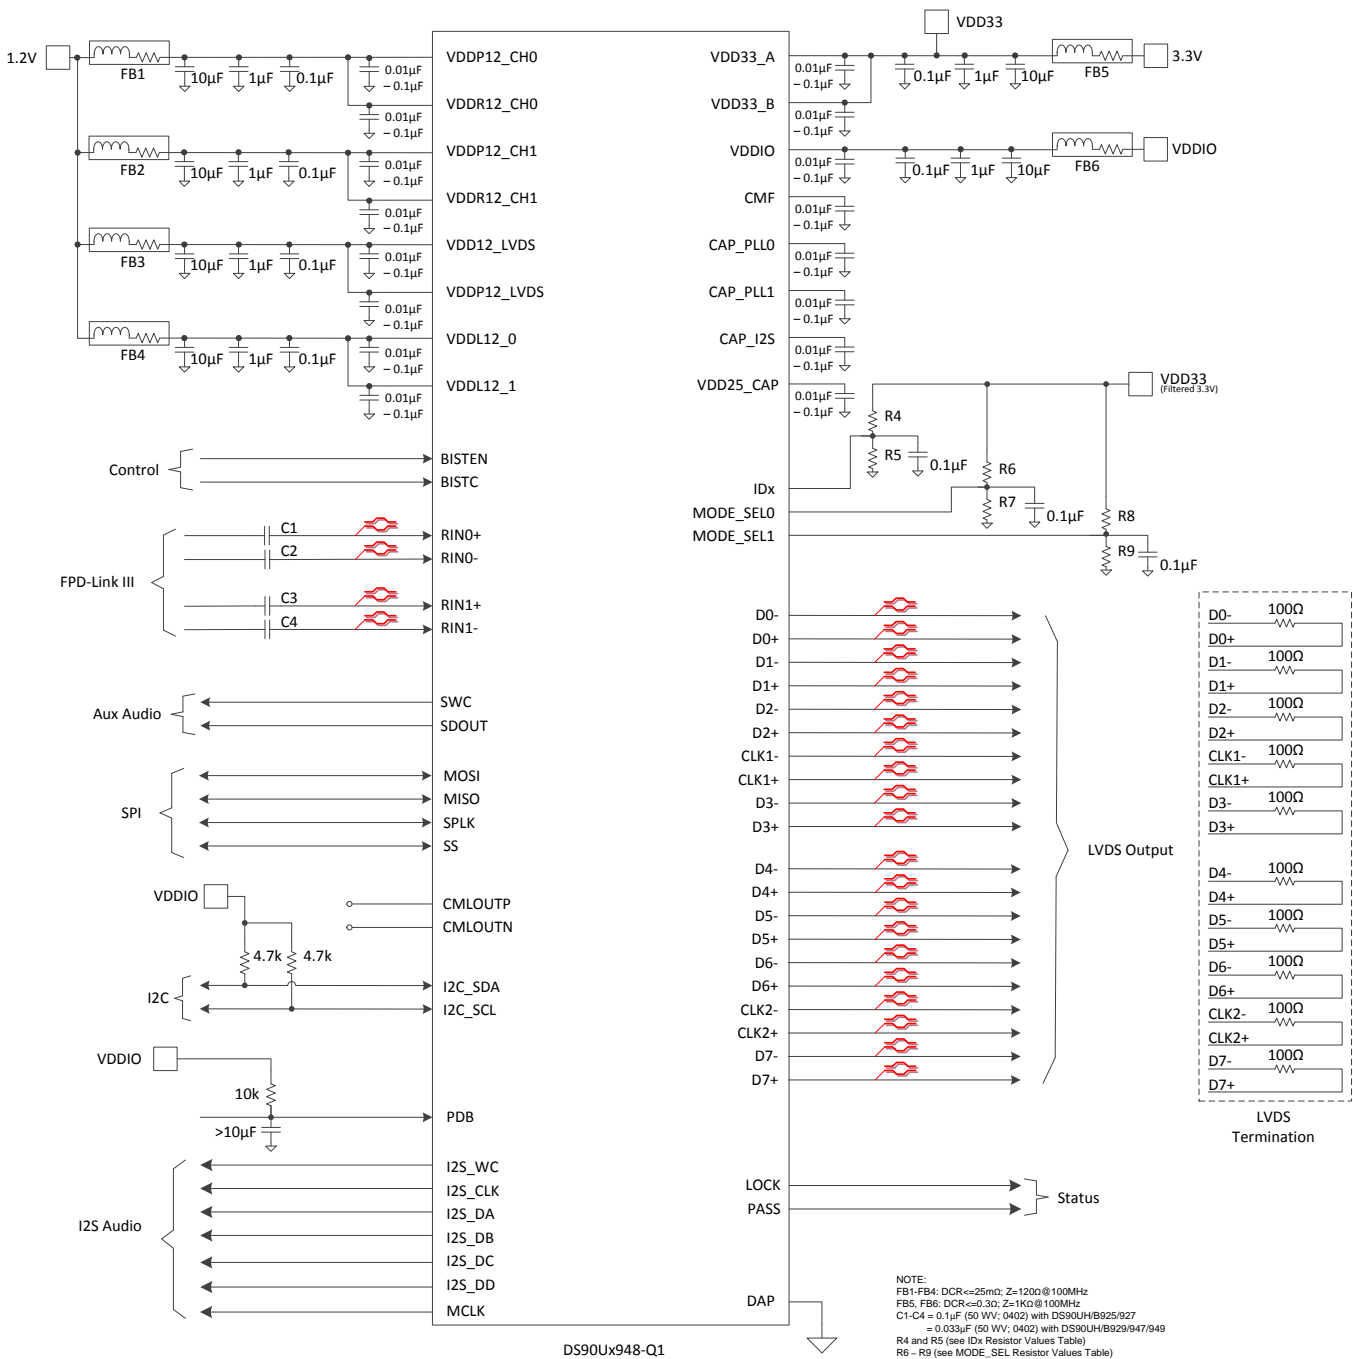

Figure 47. Typical Connection Diagram (STP)
Bypass capacitors should be placed near the power supply pins. At a minimum, four (4) 10μF capacitors should be used for local device bypassing. Ferrite beads are placed on the two sets of supply pins (VDD33 and VDDIO) for effective noise suppression. The interface to the graphics source is LVDS. The VDDIO pins may be connected to 3.3V or 1.8V. A capacitor and resistor are placed on the PDB pin to delay the enabling of the device until power is stable. See Figure 47 for a typical STP connection diagram and Figure 48 for a typical coax connection diagram.